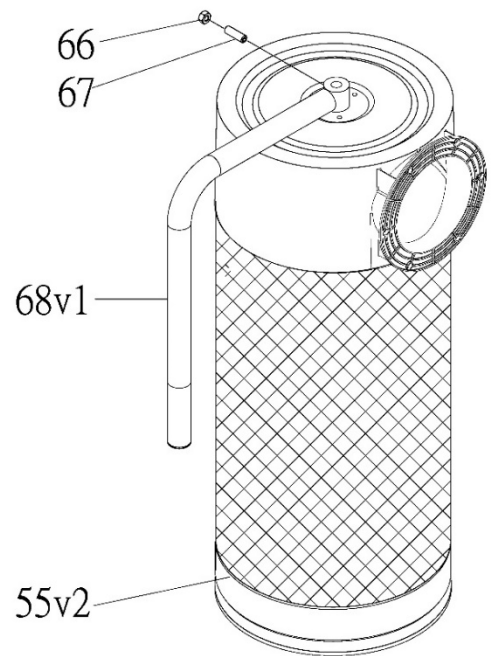

Fig. 5
6. Assemble Handle (NO. 68v1) inside the Canister Filter (NO. 55v2) and tighten with Set Screw 5/16"x3/4" (NO. 67) and Nut 5/16" (NO. 66). See FIG. 5